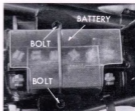

Fig. 25
1. Remove the rider's seat and disconnect the wires from the battery positive and negative terminals. Loosen the fitting bolts and the battery can be removed. (Fig. 25)